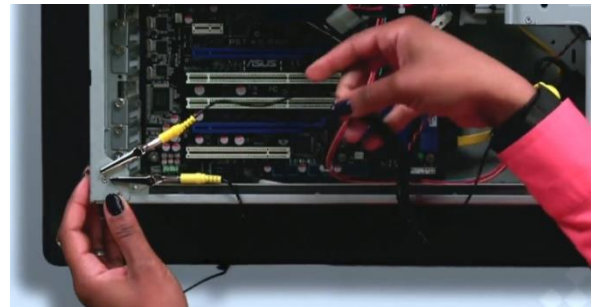

FIGURE 6: TESTOUT CORP. (2020, JANUARY 14). TESTOUT PC PRO (SECTION 2.1.4). RETRIEVED FROM [HTTP://WWW.TESTOUT.COM](http://www.testout.com)
1.3.3. Ground yourself. Put the ESD Wrist Strap on your wrist. Then, connect the strap's alligator clip to the PC case (See Fig. 6).